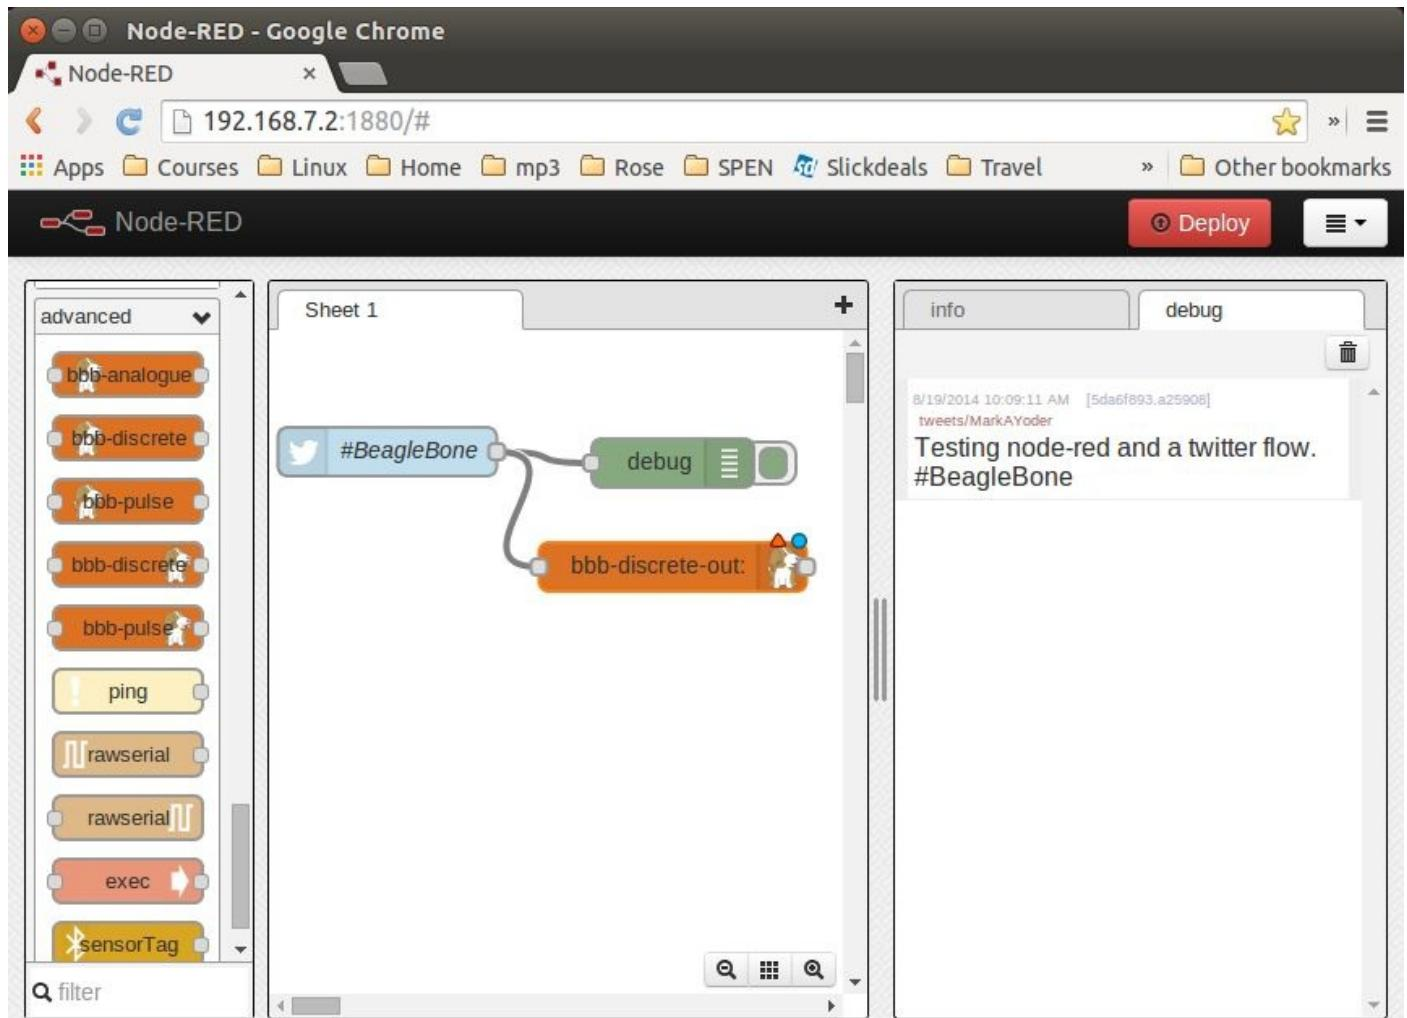

Figure 6-14. Node-RED adding bbb-discrete-out node
2. Scroll to the bottom of the left panel and drag the bbb-discrete-out node (second from the bottom of the bbb nodes) to the canvas and wire it (Figure 6-14).